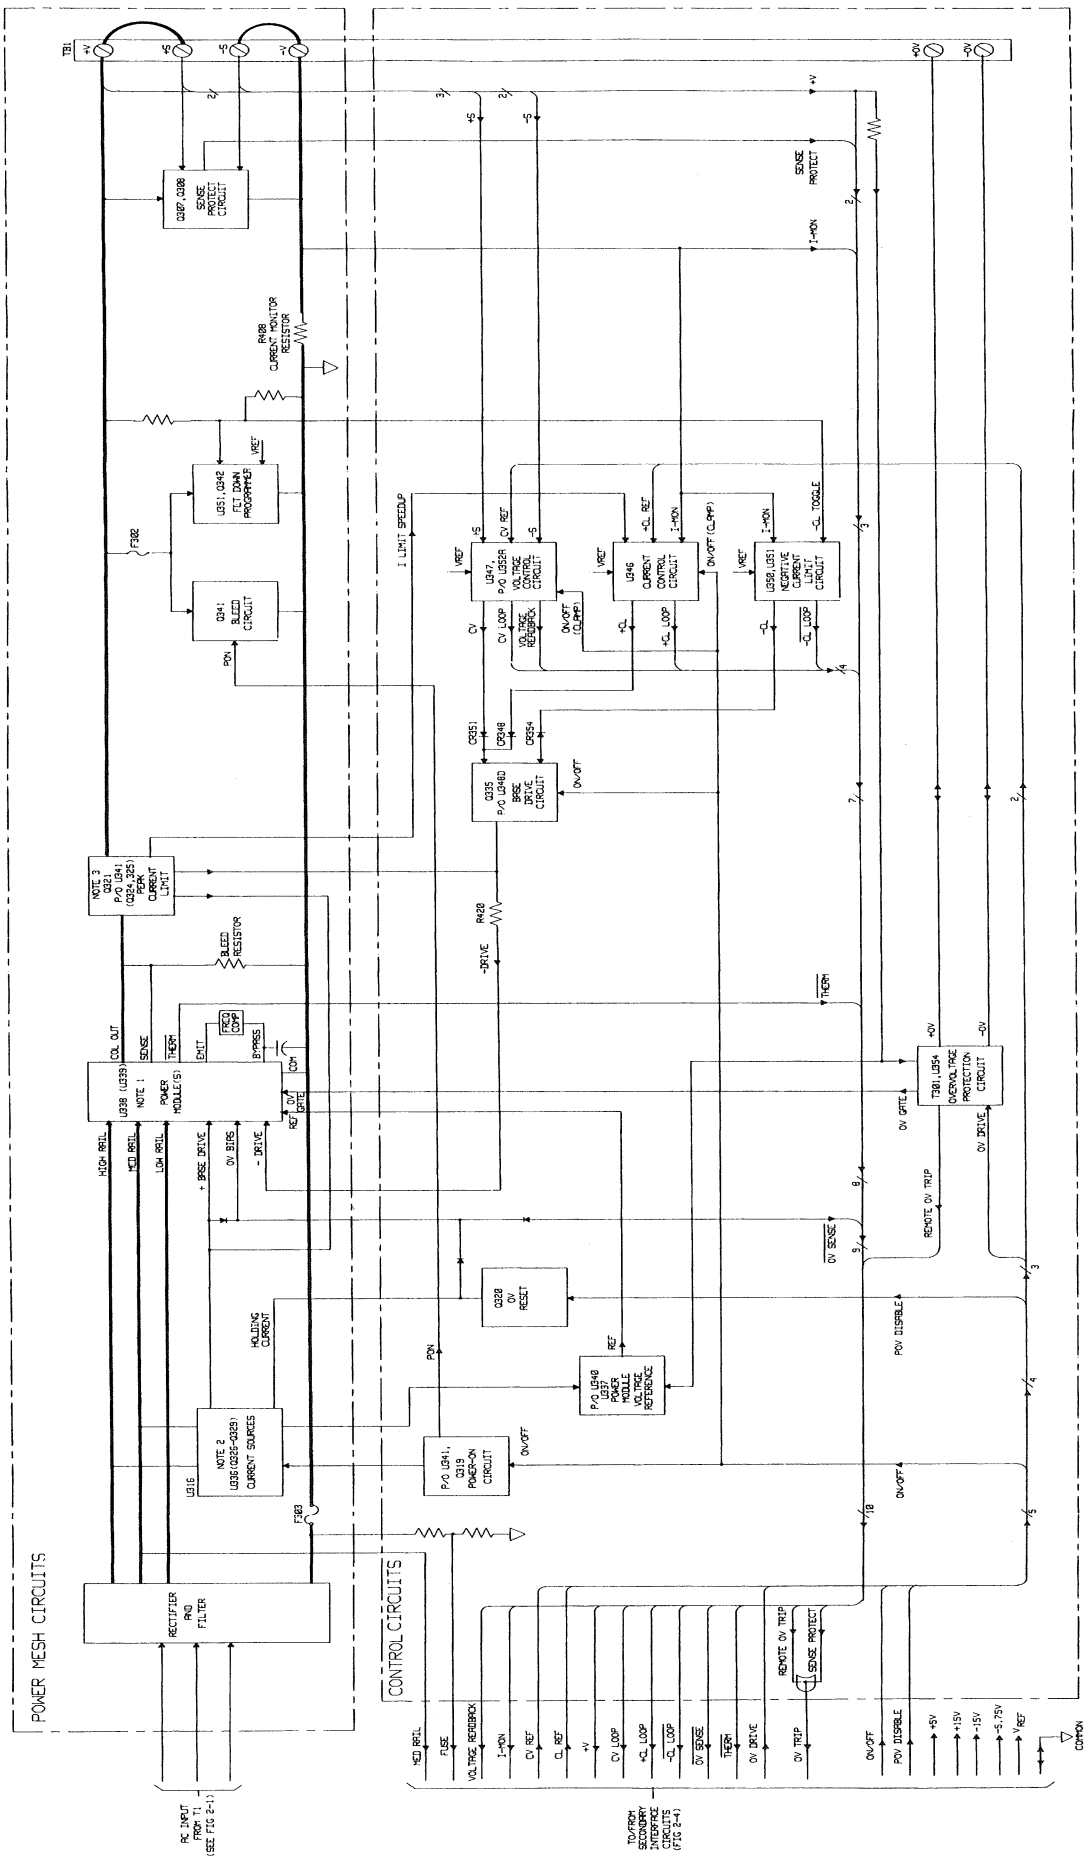

Figure 2-5. Output Board, Power Mesh and Control Circuits, Block Diagram
The voltage readback buffer (U319C) provides unity gain for the V READBACK signal and isolates the multiplexes circuit from the CV control circuit (see Figure 2-5). The current readback amplifier (U345) provides a gain of approximately 36 for the I-MON signal (0 to 0.25 V approximately) which comes from the current sense resistor (see Figure 2-5). The amplified signal is an input (+ IMON) to the analog multiplexes and to the current readback inverter (P/O U319D). The inverter slightly attenuates the signal and provides the correct polarity to the analog multiplexes so that the current can be monitored (- IMON) when the output is sinking current (- current).
**Status Monitor** - This circuit consists of comparators to monitor the control loops, logic to decode these input lines, and flip-flops to catch and hold changes. The inputs to the status comparators are the CV LOOP, +CL LOOP, and -CL LOOP signals from the power control circuits (see Figure 2-5). The outputs of the comparators are combined in logic circuits which then go into the set inputs of flip-flops which hold the status of CVO, + CLO, - CLO, and UNREG outputs. UNREG is decoded if the output is not regulated by a CV or CL control loop.
The status monitor circuit also receives  $\overline{\text{OV SENSE}}$  and  $\overline{\text{THERM}}$  inputs. The  $\overline{\text{THERM}}$  signal is received from the power module(s) in the power mesh (see Figure 2-5) and indicates when an overtemperature condition exists. Note that when the microcomputer senses the overtemperature (OT) condition via data bus line D4, it shuts down the output. This circuit resets automatically and restores the output approximately 30 seconds after the temperature drops sufficiently for safe operation.
### 2-34 Power Mesh and Control Circuits (Figure 2-5)
The power mesh circuit in the upper half of Figure 2-5 converts the AC from the power transformer to regulated DC output power. The primary power control element is the power module hybrid. Note that the main difference between the 40W and 80W output boards is, the 40W output boards have one power module (U338), while the 80W output boards have two power modules (U338, U339) connected in parallel. The power mesh circuit generates a constant voltage or constant current output under control of the control circuits shown in the lower half of Figure 2-5. In addition to controlling the power mesh circuit, the control circuits send measurement and status data back to the GPIB controller and/or front panel via the interface circuits on the output board and the GPIB board.
The current control circuit receives an input from the peak current limit circuit (in the current sourcing mode only) as shown in Figure 2-5. When the peak current limit circuit (see paragraph 2-39) is activated, it immediately limits the conduction of the series regulators in the power module and also notifies the current control circuit to take control of the current limiting action.